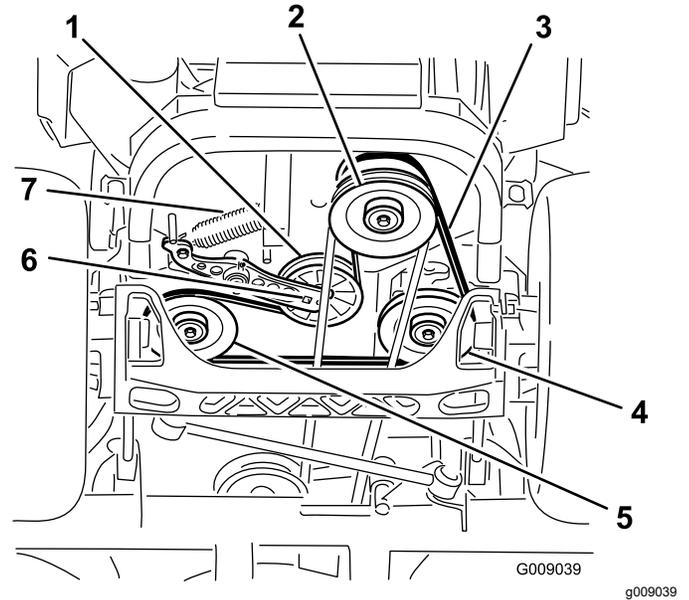

**Figure 74**
12. Install the belt covers (Figure 74).